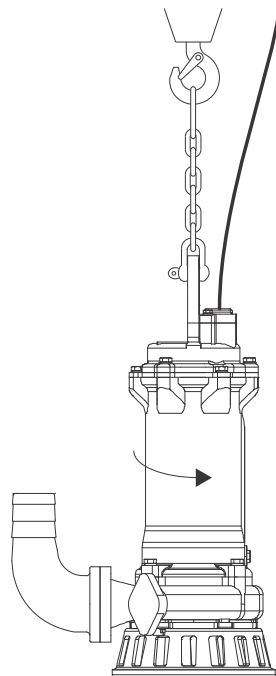

Fig. 8 Jerk direction
3. Observe the jerk of the pump. If the pump jerks counterclockwise, the direction of rotation is correct. See fig. 8.